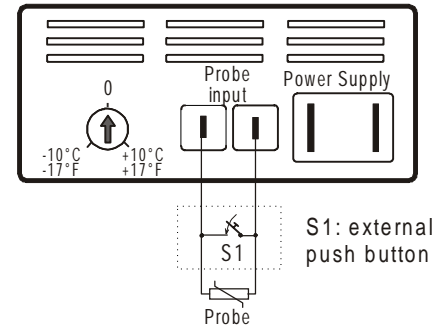

Fig.2
5. EXTERNAL PUSH-BUTTON CONNECTION (FIG.2)
2. Connect the push button in parallel with the probe as shown in Fig.2.